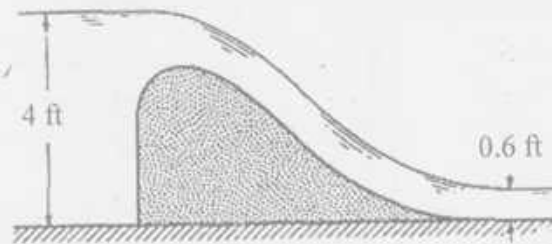

Figure- 4
- 3.(a) Flow occurs over a spillway of constant section as shown in Figure- 4. Determine the horizontal force on the spillway per foot of spillway width. Assume ideal flow. (10)